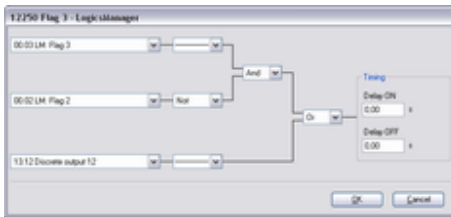

Fig. 235: LogicsManager function "Flag 3"
4. ➤ Configure the LogicsManager function "Flag 3" as shown in (Fig. 235).